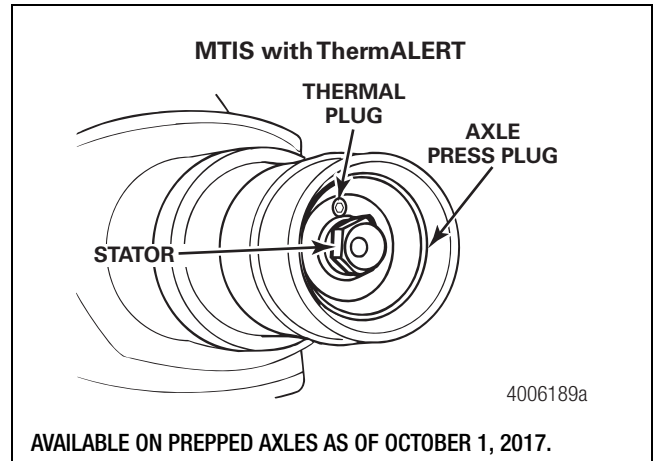

Figure 1.6
- If equipped with the ThermALERT system, the axle press plug with the thermal plug and stator are installed into the axle spindle. The thermal plug must be installed at the 12 o'clock position when the axle is sitting in the running position. Figure 1.6.